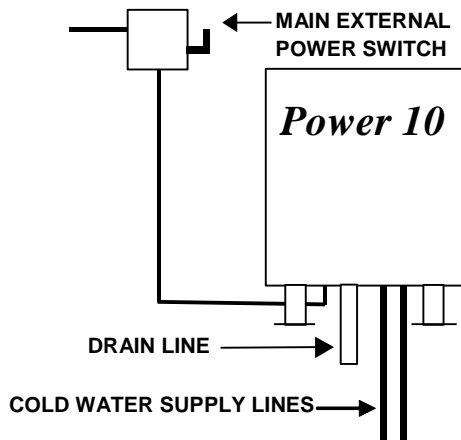

Figure 3-9
1. Install a main disconnect switch and a separate fuse or breaker for this appliance as shown in Figure 3-9. The fused disconnect switch is referred to as the "Main External Power Switch."